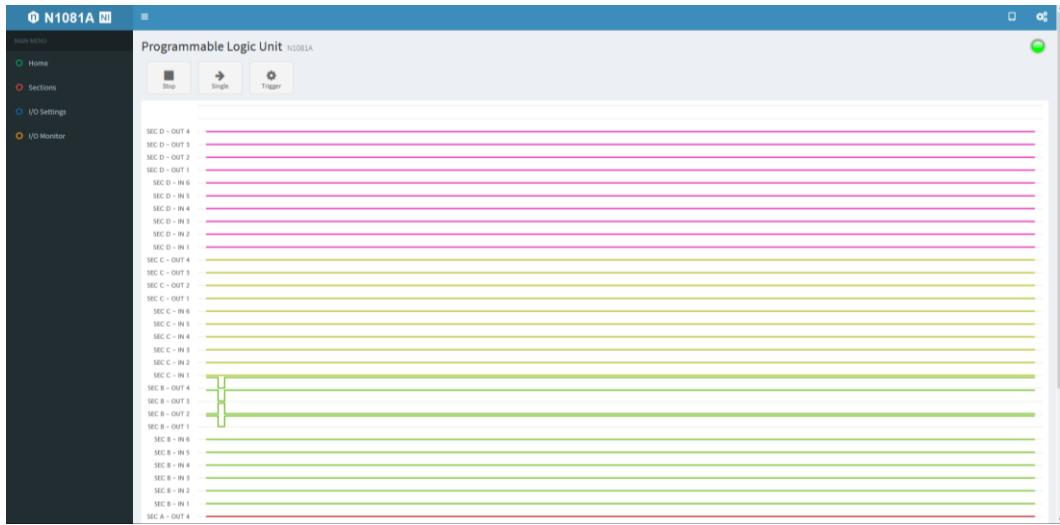

Figure 15.4: general view of the I/O Monitor page of the x1081B Web interface.
*I/O Monitor* page (see **Figure 15.4**) shows the digital state of the signals for each input and output channel. The signals are sampled and plotted with different colors, according to the color defined for the sections.